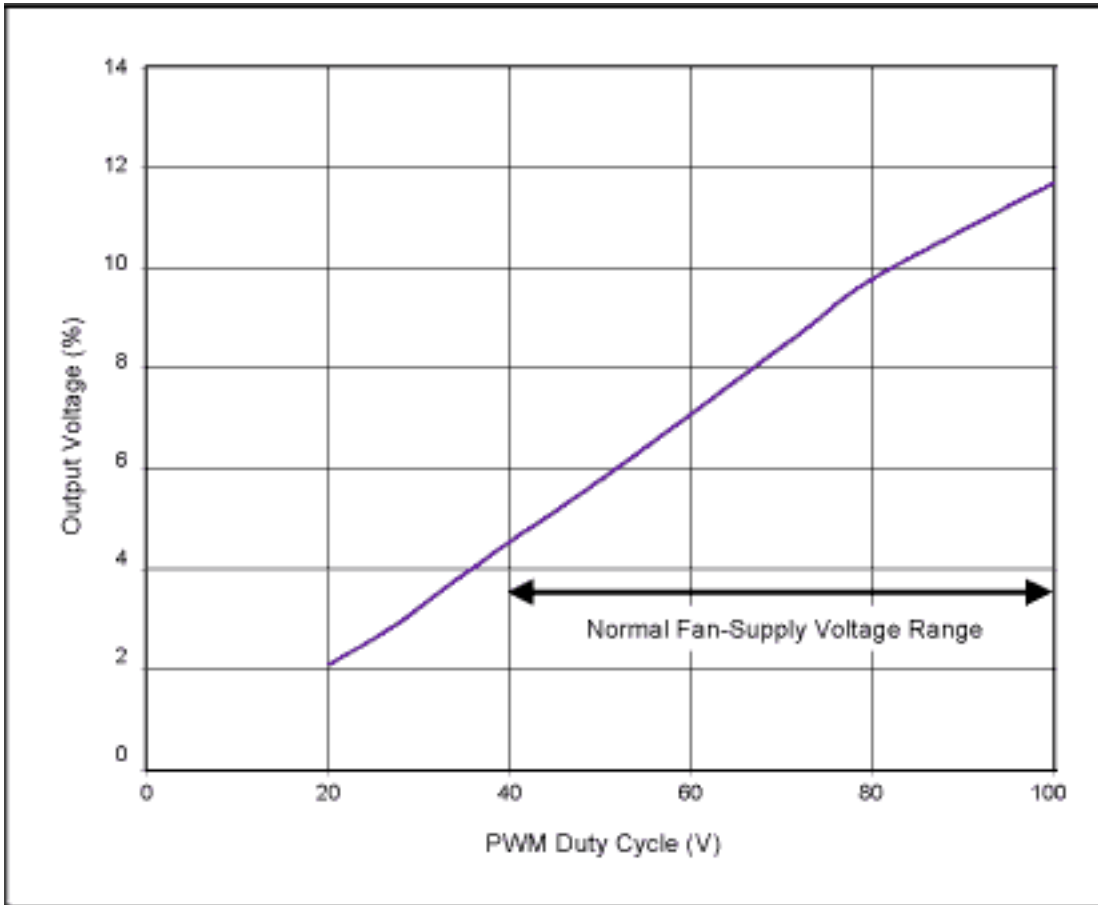

Figure 3. Output voltage vs. input duty cycle for the circuit of Figure 2.
**Figure 3** shows the output voltage vs. PWM duty cycle for this circuit. The transfer function is reasonably linear and well-behaved. To minimize output ripple, set IC1's PWM output frequency to the highest available value. Set the PWM output polarity to provide 0V at the PWM output for a 100% duty cycle. Therefore, when driving the fan, be sure to choose a duty cycle that results in an output voltage at least 40% of full scale. Note that the 40% minimum voltage is a guideline; different fan models will differ in their ability to operate from low supply voltages.